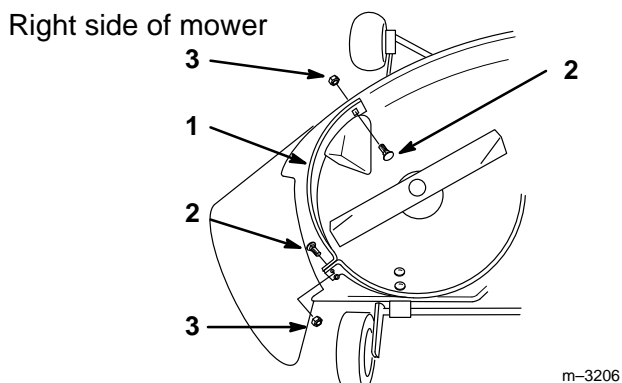

Figure 2
2. Position discharge baffle in discharge opening. Engage pin on flange into rear right baffle (Fig. 2).
3. Secure flange hole of baffle to rear discharge baffle with a 5/16–18 x 3/4" (19 mm) carriage bolt and 5/16" locknut (Fig. 2).
4. Secure to front of mower with a 5/16-18 x 3/4" (19 mm) carriage bolt, with head on the inside. Secure with 5/16" locknut (Fig. 2).